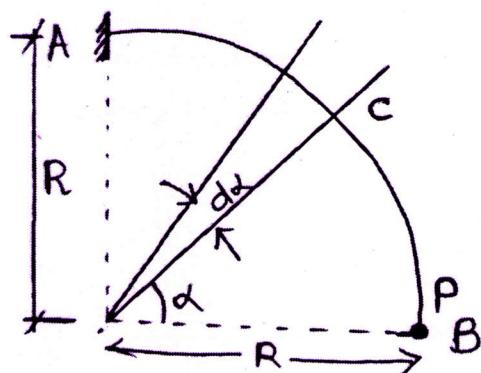

Fig. 6
- 7 a) Determine the deflection at the free end for a quarter circular beam of radius R, (12) fixed at end A and free at end B. It carries a vertical load P at its free end. Sketch the shear force, bending moment and torsional moment diagram for the beam in Fig. 6